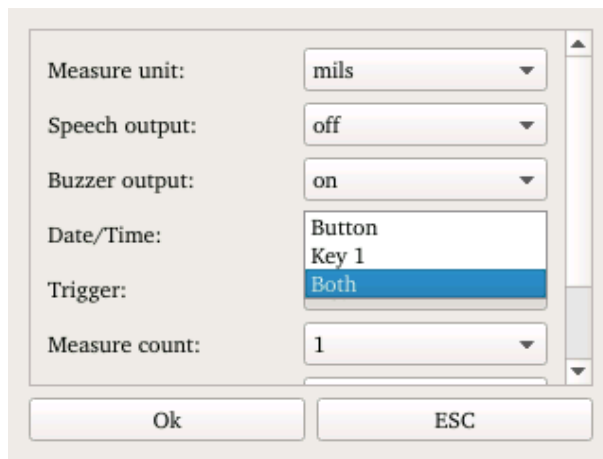

Figure 8: Menu Trigger
- In the menu “Trigger”, see Figure 8, you can set the Trigger option to start the measurement in the following three modes: